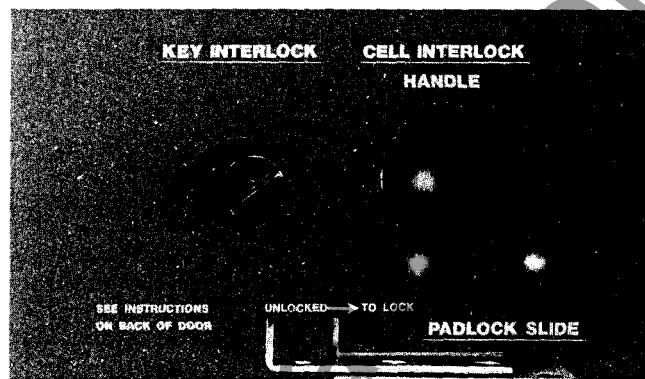

Figure 1-19.
1.5 KEY INTERLOCK SYSTEM (Figure 1-19)